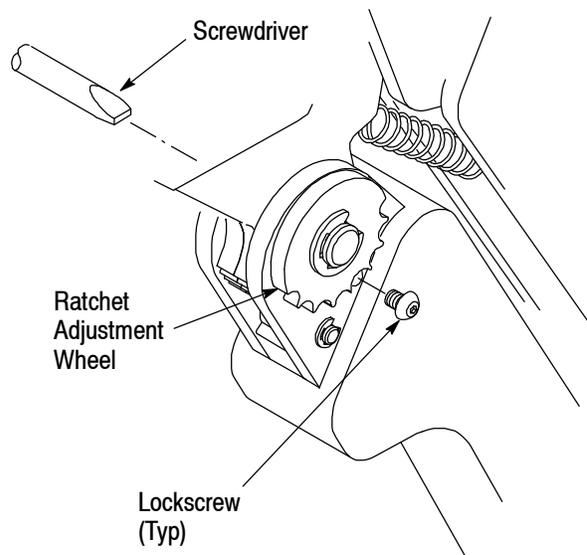

Figure 5
**7. RATCHET (Crimp Height) ADJUSTMENT** (Figure 5)